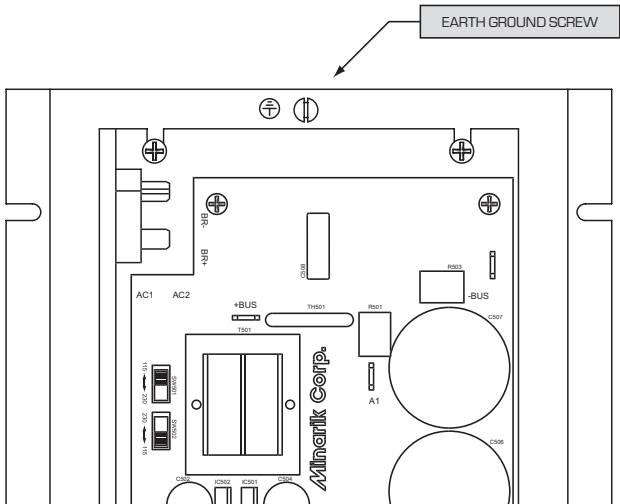

Figure 3. Earth Ground Screw
- Connect earth ground to the green earth ground screw attached to the heat sink. See Figure 3 (page 5) for the earth ground screw location.